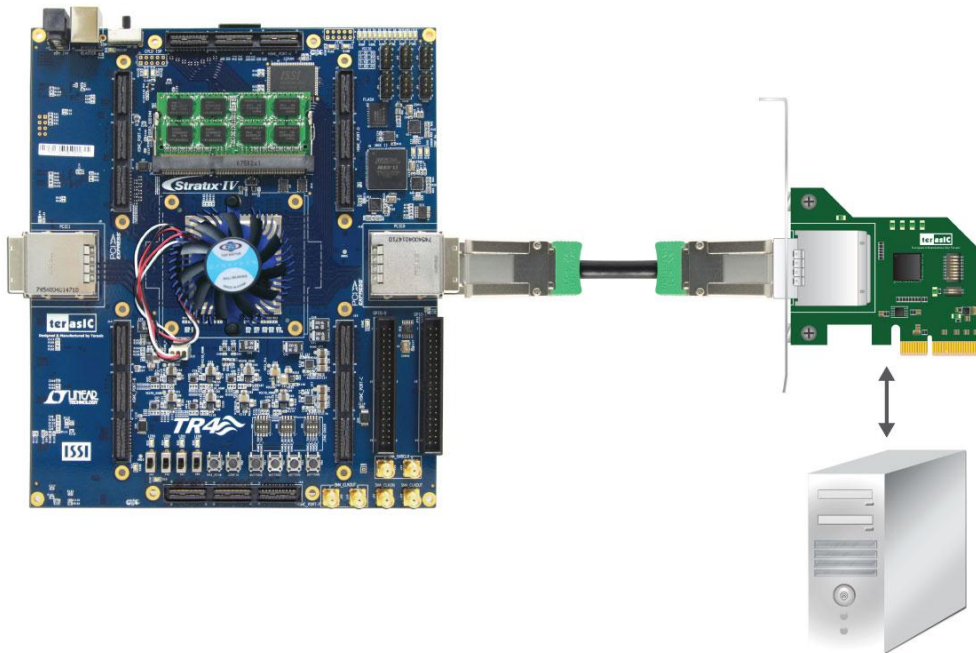

Figure 6-12 PCIe Fundamental Communication Demonstration Setup
- Use the PCIe cable to connect to the TR4 PCIE0 connector and PCIe adapter card as shown in Figure 6-12
- Use the PCIe cable to connect the TR4 PCIE0 connector and PCIe adapter card as shown in Figure 6-12